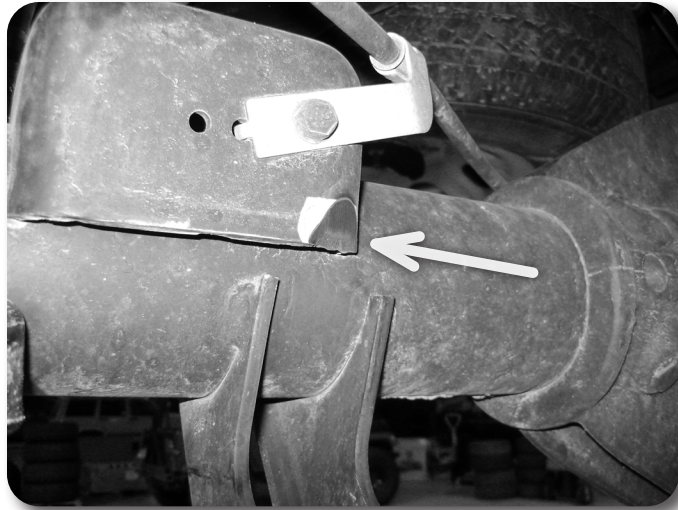

Figure 57
13. The passenger's side bump stop bracket on the axle must be trimmed slightly to add clearance for the new larger rear shocks. Grind the inside front corner to gain approximately 1/4" of clearance. Figure 57 Paint bare metal to prevent rust.